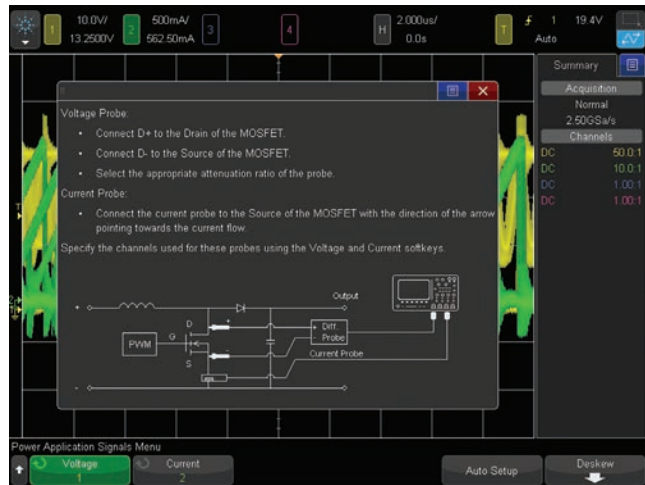

Figure 15: Connecting the voltage and current probes to the transistor switching device.
5. Connect the N2790A high-voltage differential probe between the scope's channel-1 input to the drain/collector (red lead) and source/emitter (black lead) of your switching transistor as illustrated in the on-screen connections diagram of Figure 15. If using Agilent's SMPS training kit, connect to **TP3** (red lead) and **TP4** (black lead).